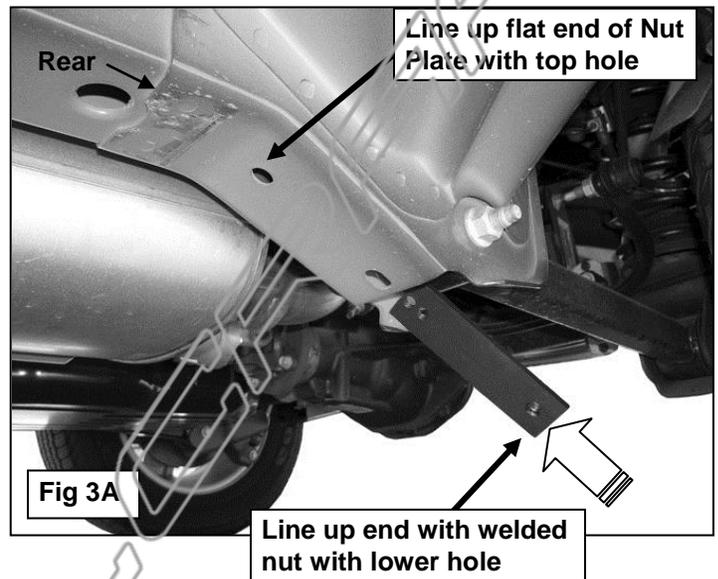

**Fig 1B**
- Start installation toward the driver side front-side of the vehicle. Locate the driver side-front mounting location, **(Figure 1A)**. Select (1) Welded Double Nut Plate, **(Figure 1B)**. Insert the Nut Plate into the large round hole in the floor panel. Line up the (2) threaded nuts in the Nut Plate with the large round hole and the oval hole in the floor panel. Select the driver side Front Bracket. Hang the Bracket from the Double Nut Plate with (2) 10mm x 30mm Hex Bolts, (2) 10mm Lock Washers and (2) 10mm Flat Washers inserted through the Bracket and into the Double Nut Plate, **(Figure 2)**. Do not tighten hardware at this time.